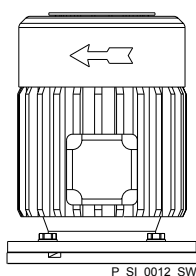

Fig. 12: Direction of rotation of motor
- When connecting the motor, pay attention to the correct direction of rotation indicated by the arrow on the fan cover, as shown in Fig. 12.